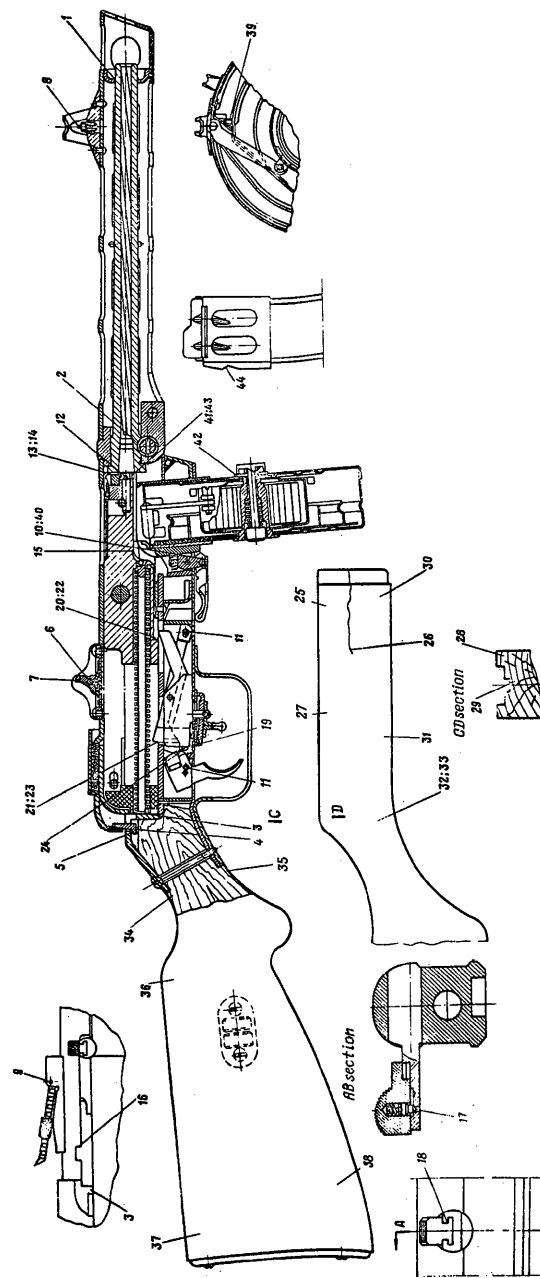

Figure 36. PPSH-41 section.
b. The firing cycle starts with the bolt caught to the rear by the sear (fig 36). Pressure on the trigger causes the sear (21) to disengage from the bolt. The force of the driving spring drives the bolt forward. The feed rib on the bolt strikes the top cartridge in the magazine and drives the cartridge out of the magazine and into the barrel. The extractor snaps into the rim of the cartridge, and the fixed firing pin ignites the primer.
c. The recoil of the fired cartridge forces the bolt to the rear; this, in turn, compresses the driving spring. The fired cartridge case is held to the bolt by the extractor until the case strikes the fixed ejector (15); the case then swings around the extractor and is expelled. The bolt continues to the rear until it is stopped by the buffer; the driving spring then drives the bolt forward.
d. The sear, which holds the bolt cocked, is a pivoted, spring-loaded bar with a step (19) in its rear surface. The trigger has a forward-projecting, spring-loaded trigger pawl (24) mounted